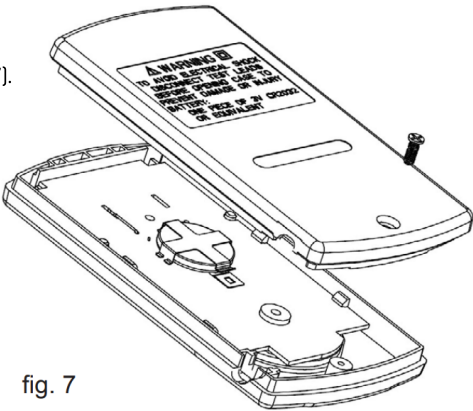

fig. 7
- 2. Unscrew the back housing and remove it [fig. 7].